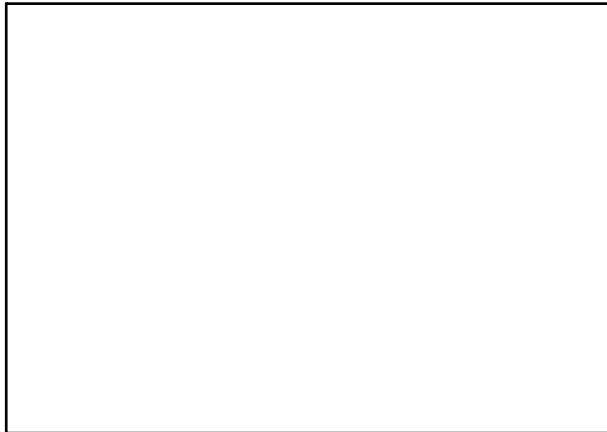

Fig. 1
- Attach the self-fixing nozzle of the filling equipment to the tyre valve (Fig. 1).